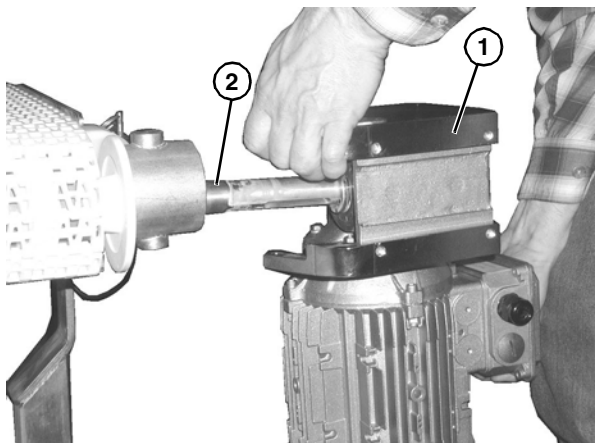

Figure 27
2. Slide the gearmotor assembly (**Figure 27, item 1**) onto the drive spindle (**Figure 27, item 2**).